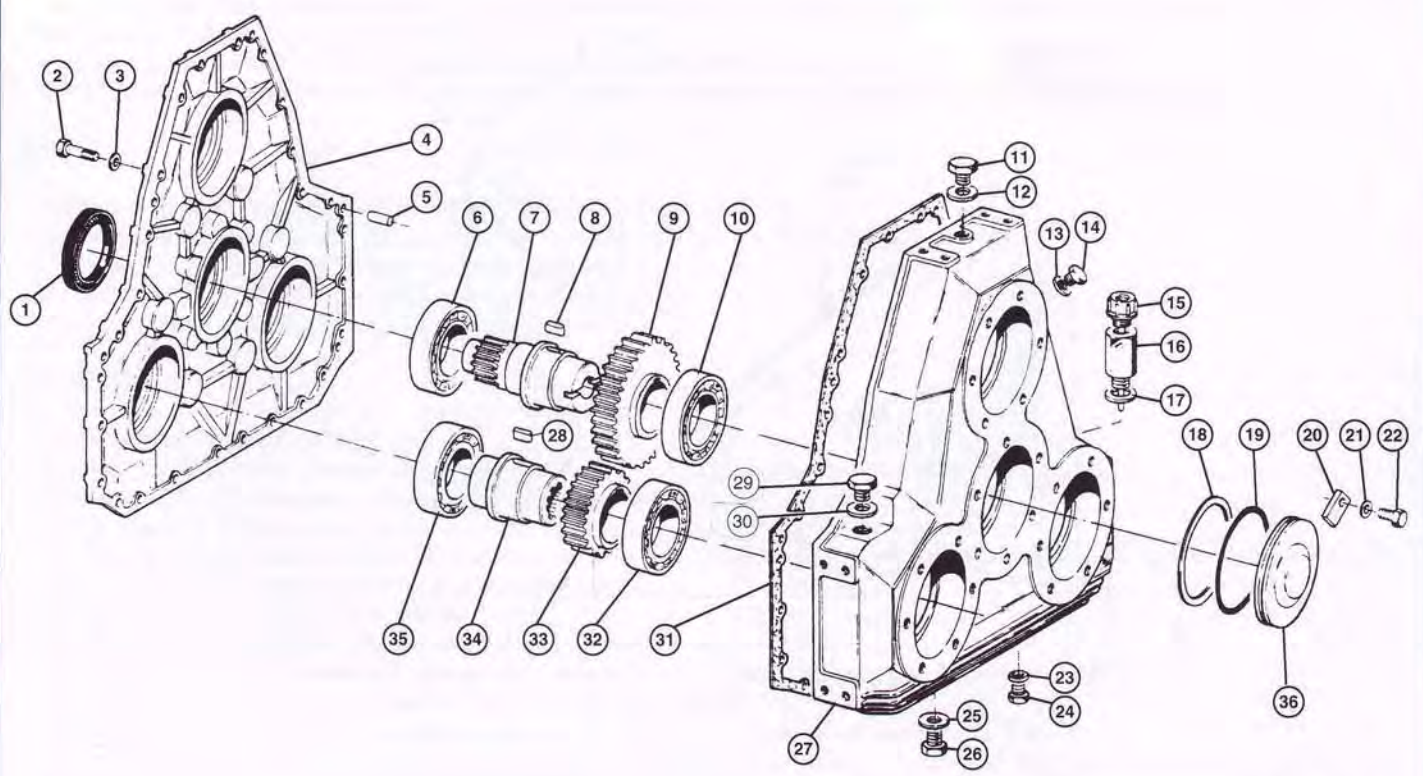

Fig. 3
4. Tighten 12mm nut to release brakes (Fig 3)